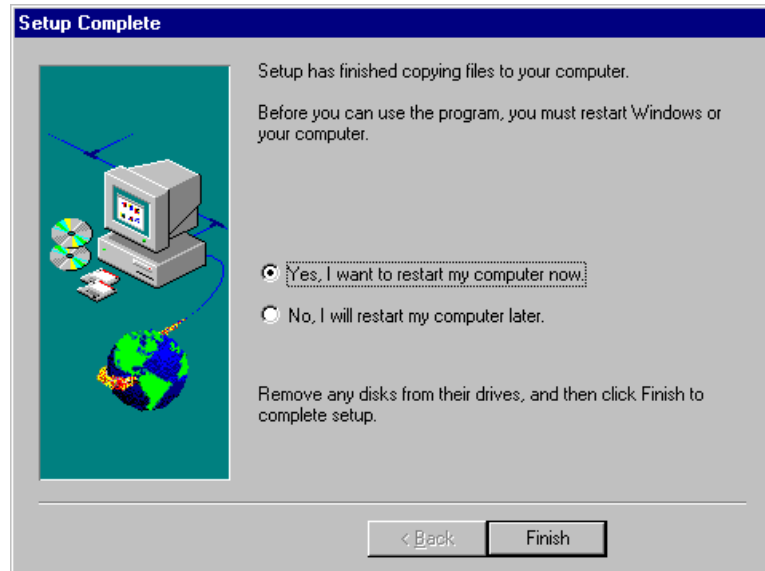

Figure 7-6. Setup Complete
6. Once installation is complete, a Setup Complete screen (Figure 7-6) will display informing you that the system must re-boot for the Channel DLC to take effect and prompting you if you want the re-boot to occur now or not. Select Yes or No and Click on **Finish**.